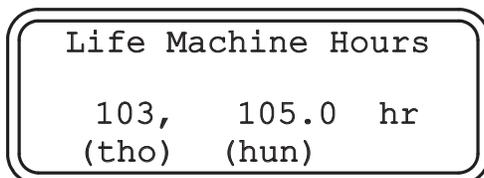

Figure 11 - Life Machine Hours Screen
- Life Machine Hours (see Figure 11)